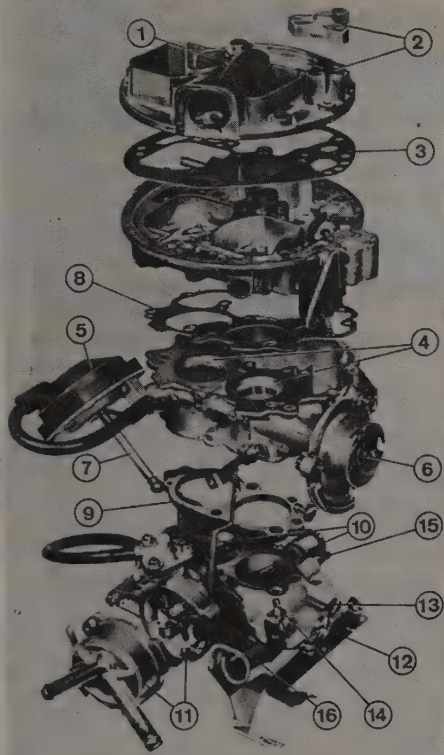

Fig. 3.11 Exploded view of the Zenith 35-40 INAT carburettor (Sec 11)
- 1 Dismantle the carburettor with reference to Figs. 3.11 to 3.13, keeping each part identified for location.